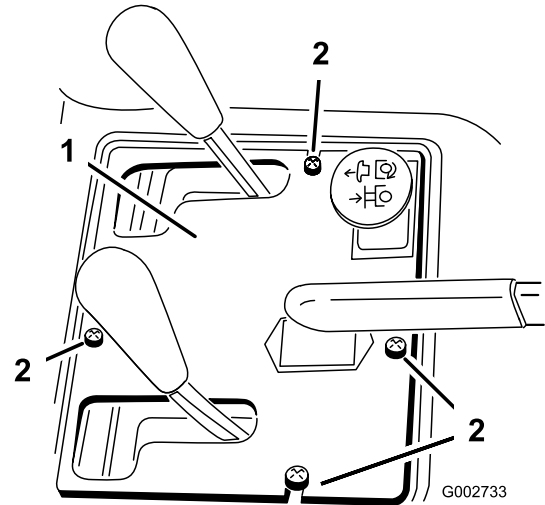

Figure 34
2. Remove the (4) screws securing the control panel to the frame (Figure 34).